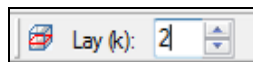

Figure 5 Switching to layer 2
1. In the Mini Grid Toolbar, click on the up arrow to change the view to layer 2 (Figure 5).